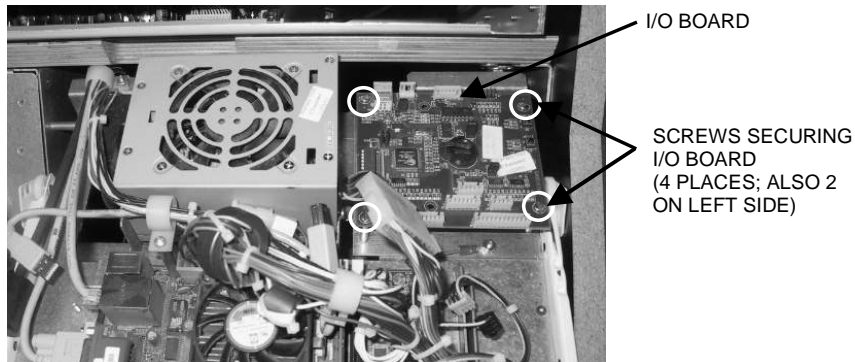

FIGURE 9 - ELECTRONICS TRAY WITH ORIGINAL I/O BOARD IN UPRIGHT GAME
3. Pull out the electronics tray. See Figure 9. Disconnect all of the harnesses from the I/O board, taking note of their positions so that you can connect them to the new board.
4. Remove the 4 screws securing the I/O board and remove the I/O board from the tray. See Figure 9.